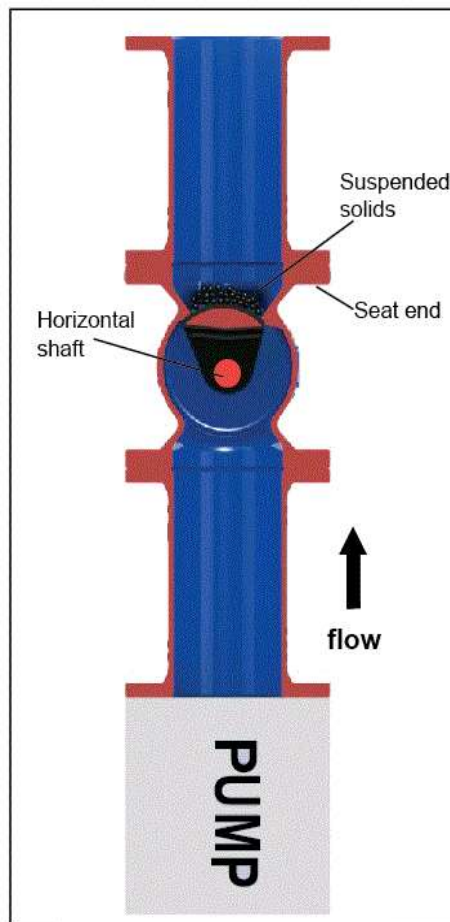

Fig.3 Vertical installation
2. Install the valve as shown in Figures 3 & 4.